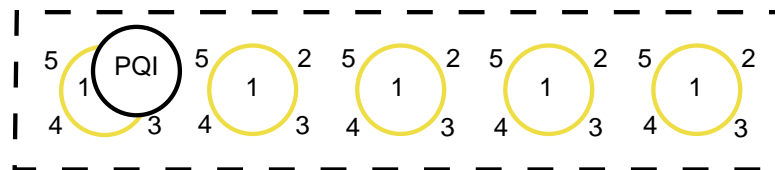

Figure 3.5.2 PQI Measurement Pattern
- H. Continue to move the PQI in clockwise steps around the marked circle stopping at the 8 o'clock and 10 o'clock positions to take and record density readings. Following the pattern in Fig. 3.5.2, move the PQI to the next circle location, record a density reading in the center and at each clock position, in turn, until the table is complete.
Continue to move the PQI in the pattern of Fig. 3.5.2 and take readings at each location.
Once calibrated the PQI is ready to be used at each job site and asphalt mix. It is suggested that 5 or more readings be taken at each site following the reading pattern of Fig. 3.5.2 and utilizing the Data Logger.